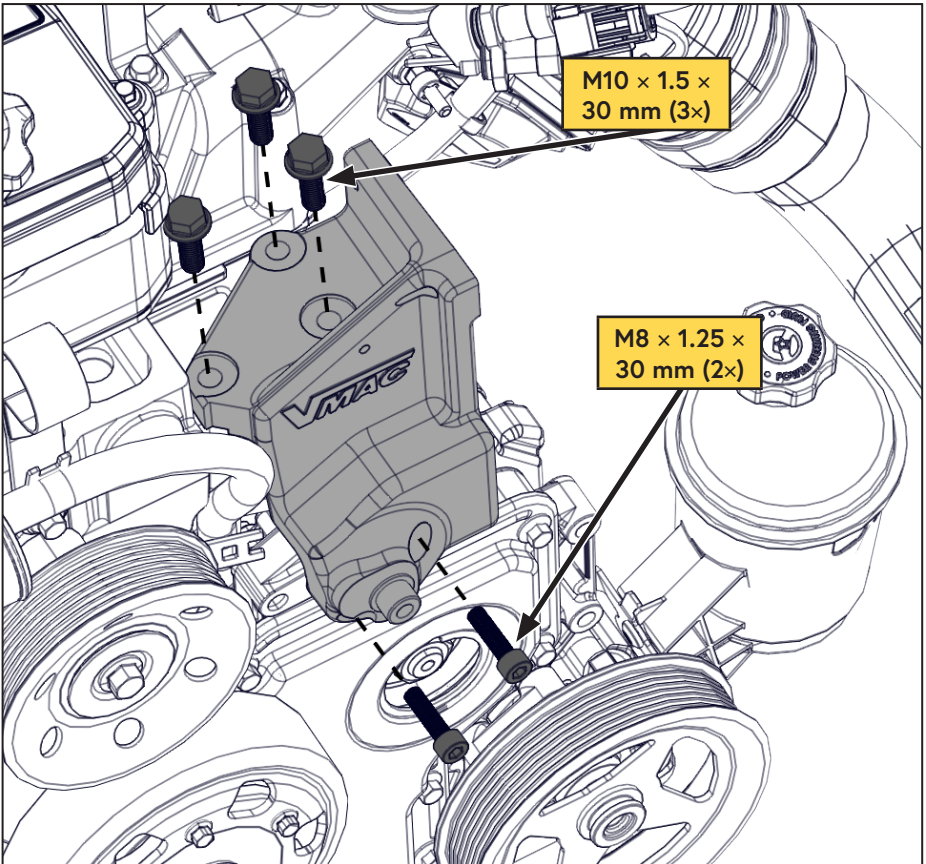

Figure 10 — Install main bracket
- Position the VMAC main bracket onto the driver side of the engine in the location shown (Figure 10).
- Install the (3x) M10 x 1.5 x 30 mm bolts finger tight into the top of the main bracket (Figure 10).
- Install the (2x) M8 x 1.25 x 30 mm bolts finger tight into the front of the main bracket (Figure 10).